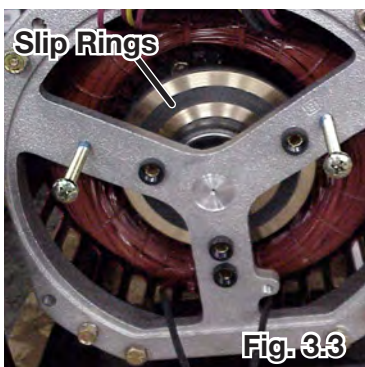

Fig. 3.3
- Clean rotor slip rings with fine non-metallic abrasive pad such as 3-M "Scotch Brite" (See Fig. 3.3).